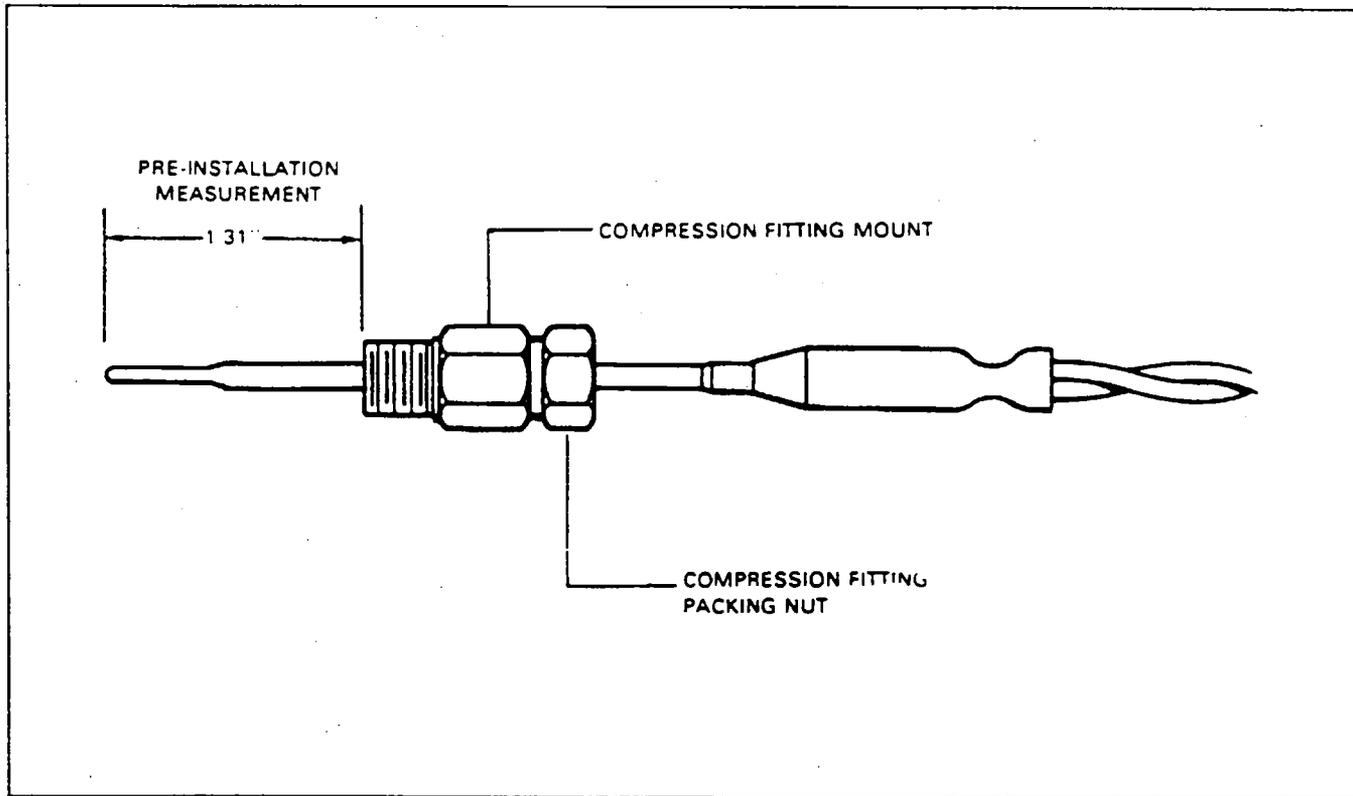

Figure 77-1. EGT Probe (Adjustable)
**INSTALLATION OF EGT PROBE.** (Refer to Figure 77-1.)